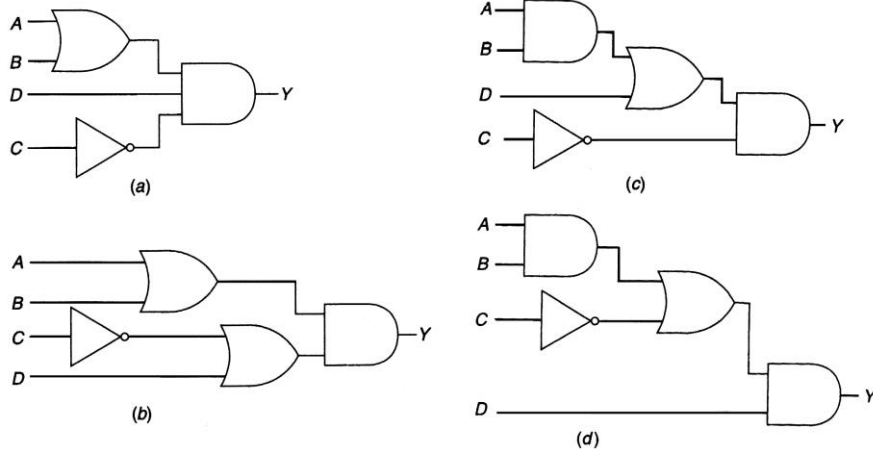

Figure 4-9 Logic circuits for question 18.
18. Which logic circuit of Figure 4-9 represents the Boolean expression $Y = (A + B)(\bar{C} + D)$? 18. _____